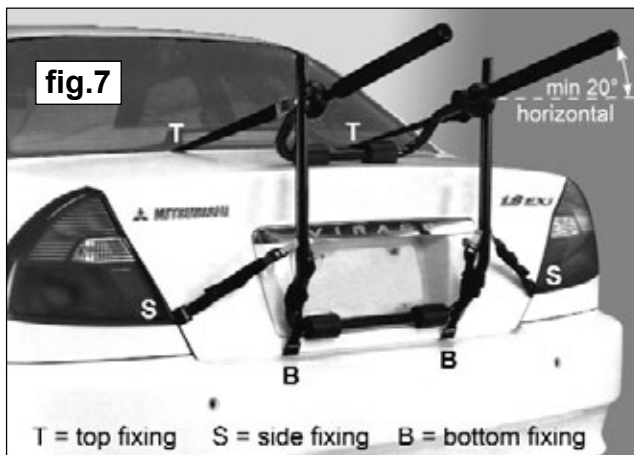
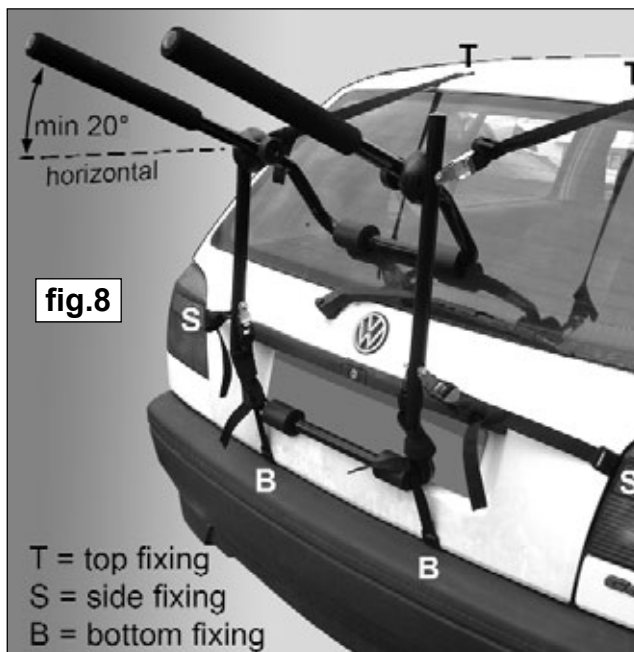

fig.7
fig.8
- 3.9 The padded support legs should be angled upwards by at least 20° from the horizontal when the frame is attached to the vehicle. The actual angle between the two parts of the frame will vary depending on whether the car is a hatchback, an estate or a saloon with a boot. See figs.7 & 8.
- 4.1.1 Position the carrier on the rear of your vehicle and adjust the carrier arms as shown in fig.7 and fig.8.
- 4.2.1. To fix upper straps to vehicle, we recommend that you hook the straps onto the top edge of the boot lid, see fig.7(T) and adjust the length of the the straps to allow the carrier to hang in place at the required height.
- 4.2.2. Attach the bottom straps to the lower edge of the boot lid, or other adequate securing point on the vehicle bodywork. Equally tighten the straps, see fig.7(B)
- 4.2.3. Attach the side straps to a suitable position on either side of the boot lid and equally tighten the straps. See fig.7(S).
- 4.3.1. To fix upper straps to vehicle, we recommend that you hook the straps onto the top edge of the tailgate, see fig.8(T) and adjust the length of the the straps to allow the carrier to hang in place at the required height.
- 4.3.2. Attach the bottom straps to the lower edge of the tailgate. Equally tighten the straps, see fig.8(B)
- 4.3.3. Attach the side straps to a suitable position on either side of the rear hatch or door and equally tighten the straps. See fig.8(S).